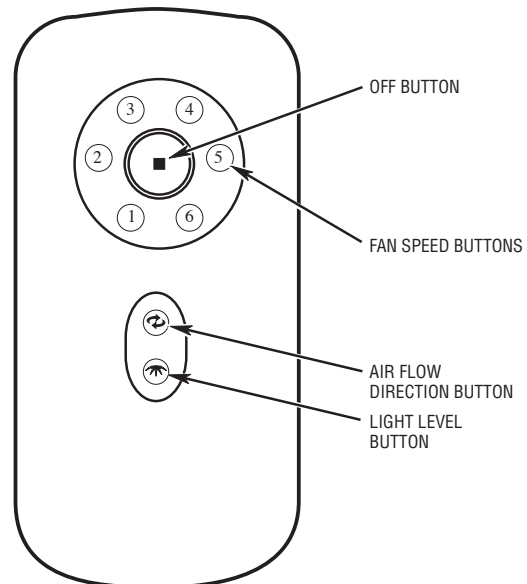

Figure 16
1. To set the desired fan speed, press the 1, 2, 3, 4, 5, or 6 buttons to operate your fan on low to highest speed (See Figure 16).